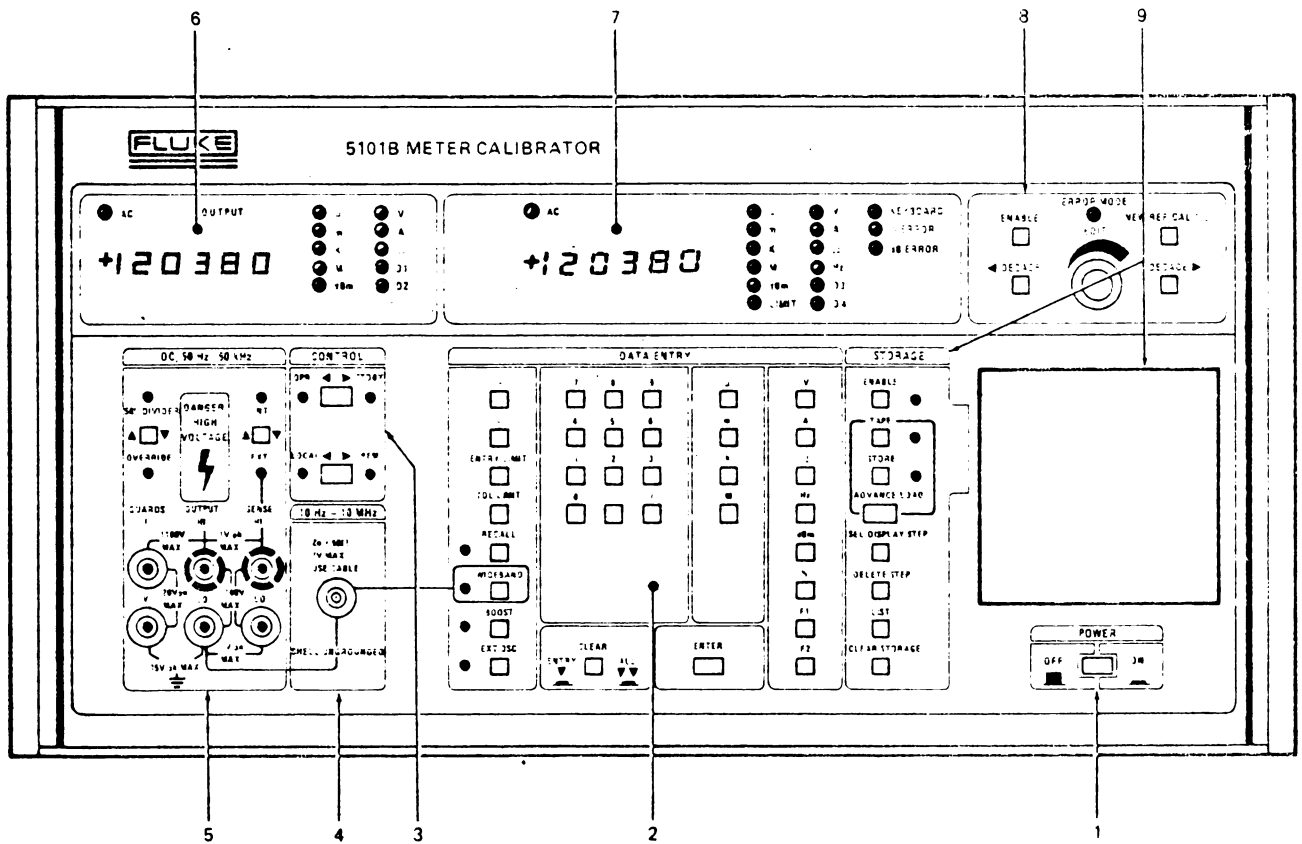

Figure 3-3. 5101B meter calibrator, front panel controls.
The front panel is divided into seven different groups (fig. 3-3). These are the (1) power switch, (2) data entry keys, (3) control keys, (8) error mode controls, (6) (7) displays and (4) (5) output terminals, and (9) storage system keys and tape drive. The storage system keys and tape drive are available only on the 5101B model that has storage capability.